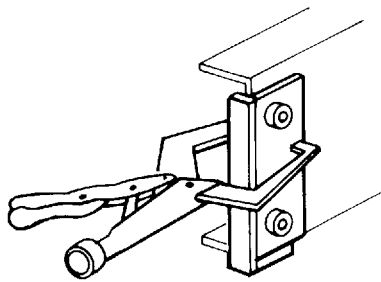
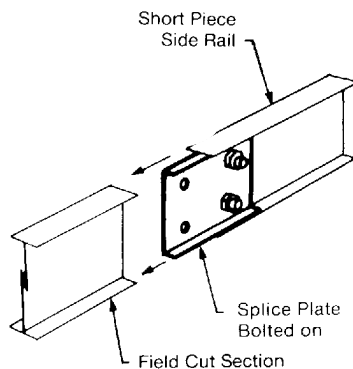
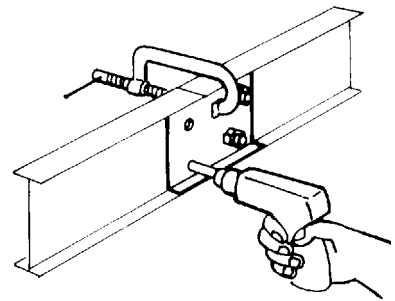

Figure 4.34
Figure 4.35
Figure 4.36
4.5.3 Drilling (See Figures 4.34 through 4.36.)
Holes for splice plates must be drilled in field-cut cable trays. The most common method of locating the hole positions is to use a splice plate as a template. Drill jigs (Figure 4.34) are also available. A short piece of side rail that is punched with the standard factory hole pattern can be bolted to the splice plate to serve as a stop that rests against the end of the field-cut side rail (Figure 4.35). Clamp the splice plate to the rail and drill through the splice plate holes and the side rail (Figure 4.36). The correct drill size is dependent on the hardware supplied with the cable tray. Match the holes that exist in the cable tray. After drilling, remove burrs.